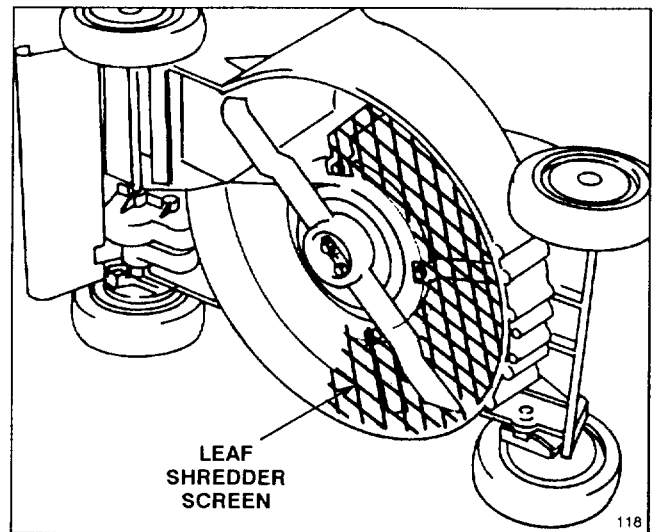

Figure 37
4. Leaf Shredder Kit, Model No. 59180—Installs on underside of mower in minutes without requiring removal of blade. Shreds leaves into small pieces for clean vacuuming into grass bag and convenient disposal (Fig. 37).